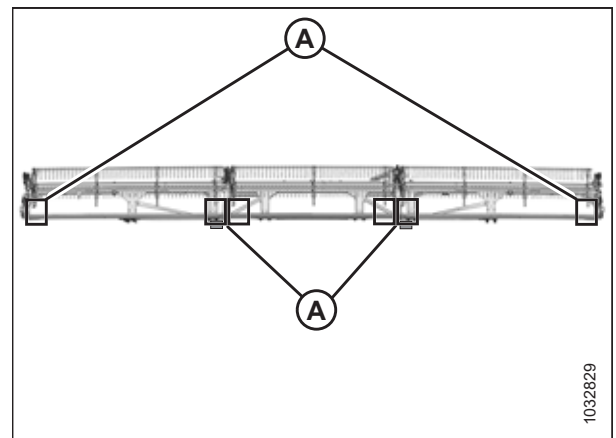

Figure 4.264: FlexDraper® Measurement Locations – Triple Reel
- Triple-reel headers: Figure 4.264, page 715